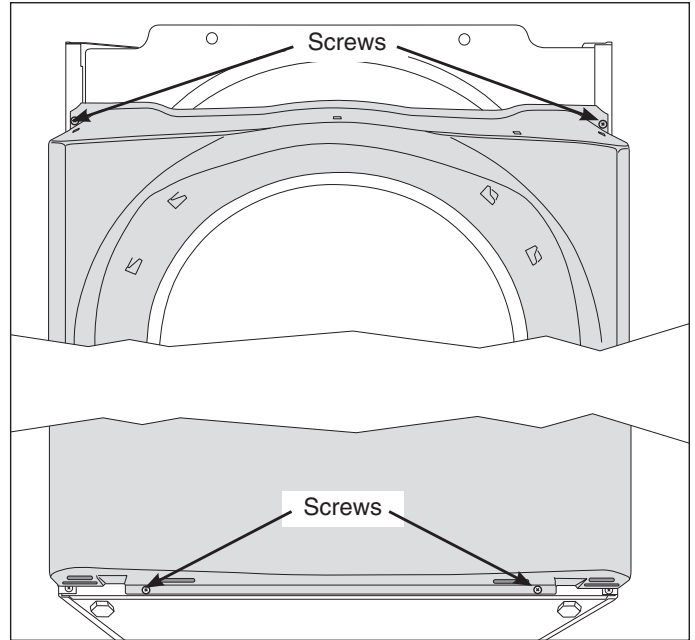

Figure 4-18.
3. Using a #2 square bit screwdriver, extract the two screws from the bottom of the front panel, then the two screws at the top of the front panel. (See Figure 4-18)